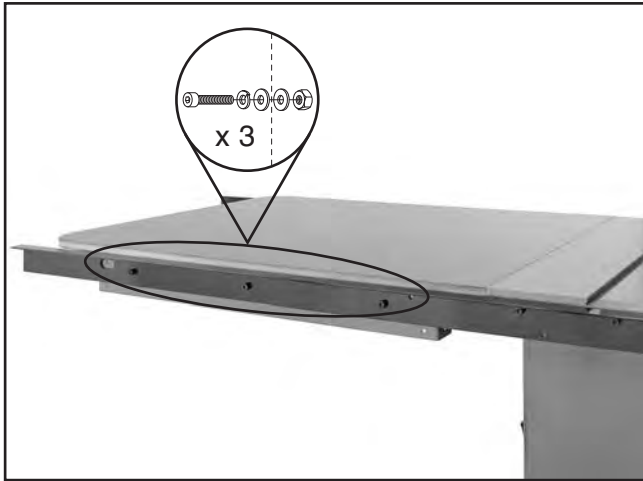

Figure 17. Rear rail/table fastener locations.
6. Fasten the 79" rear rail to the extension table with three M8-1.25 x 25 cap screws, three 8mm lock washers, six 8mm flat washers, and three M8-1.25 hex nuts, as shown in **Figure 17**. Finger tighten for now.